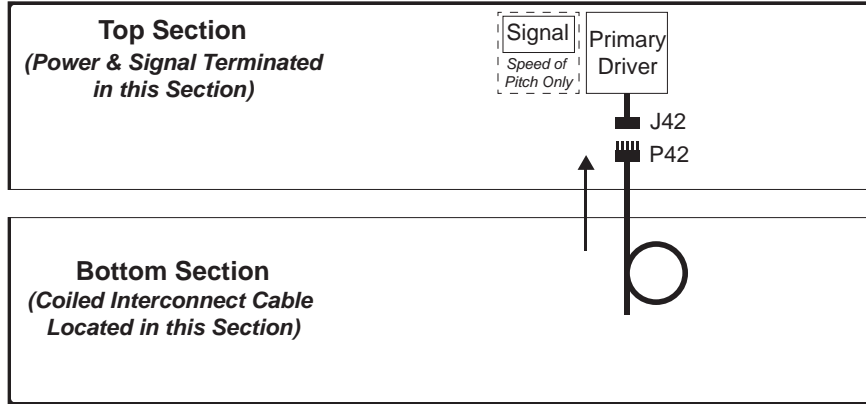

Figure 26: Power/Signal Connection – Two Sections, BA-2025/7, BA-2125/7 (Front View)
- For the BA-2025, BA-2027, BA-2125, and BA-2127, route the 5-pin interconnect cable from the Bottom Section up into the Top Section, and connect the **P42** plug to the **J42** jack coming from the Primary Driver (**Figure 26**).